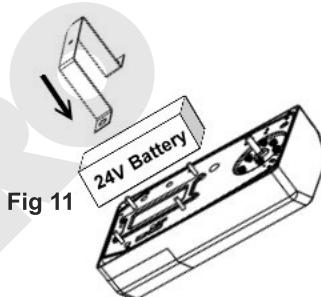

Fig 11
PASO 1 (Fig.11)
PASO 2 (Fig.11)